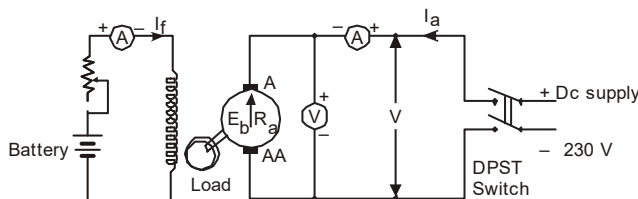

Fig. P6.5: Circuit to determine $N - T$ Characteristics
1. Connect the apparatus as per the circuit shown in fig.P6.5.